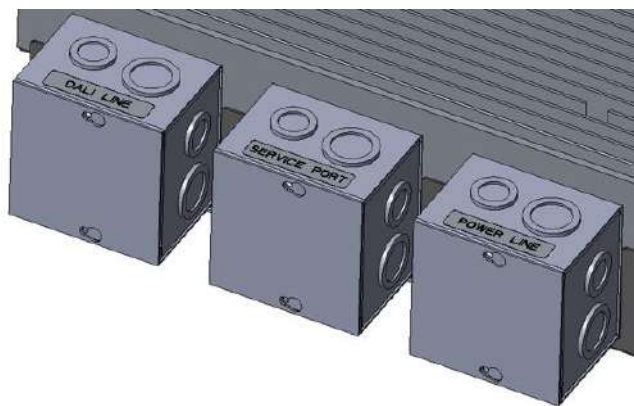

Fig. 47 Rear of the projector 74-00062-01/74-00063-01
- A. Open the lid of the junction box with the “POWER LINE” label (Figure 47).
- F. Repeat these operations on the junction box with the “DALI LINE” label for the DALI connections (Figure 47).